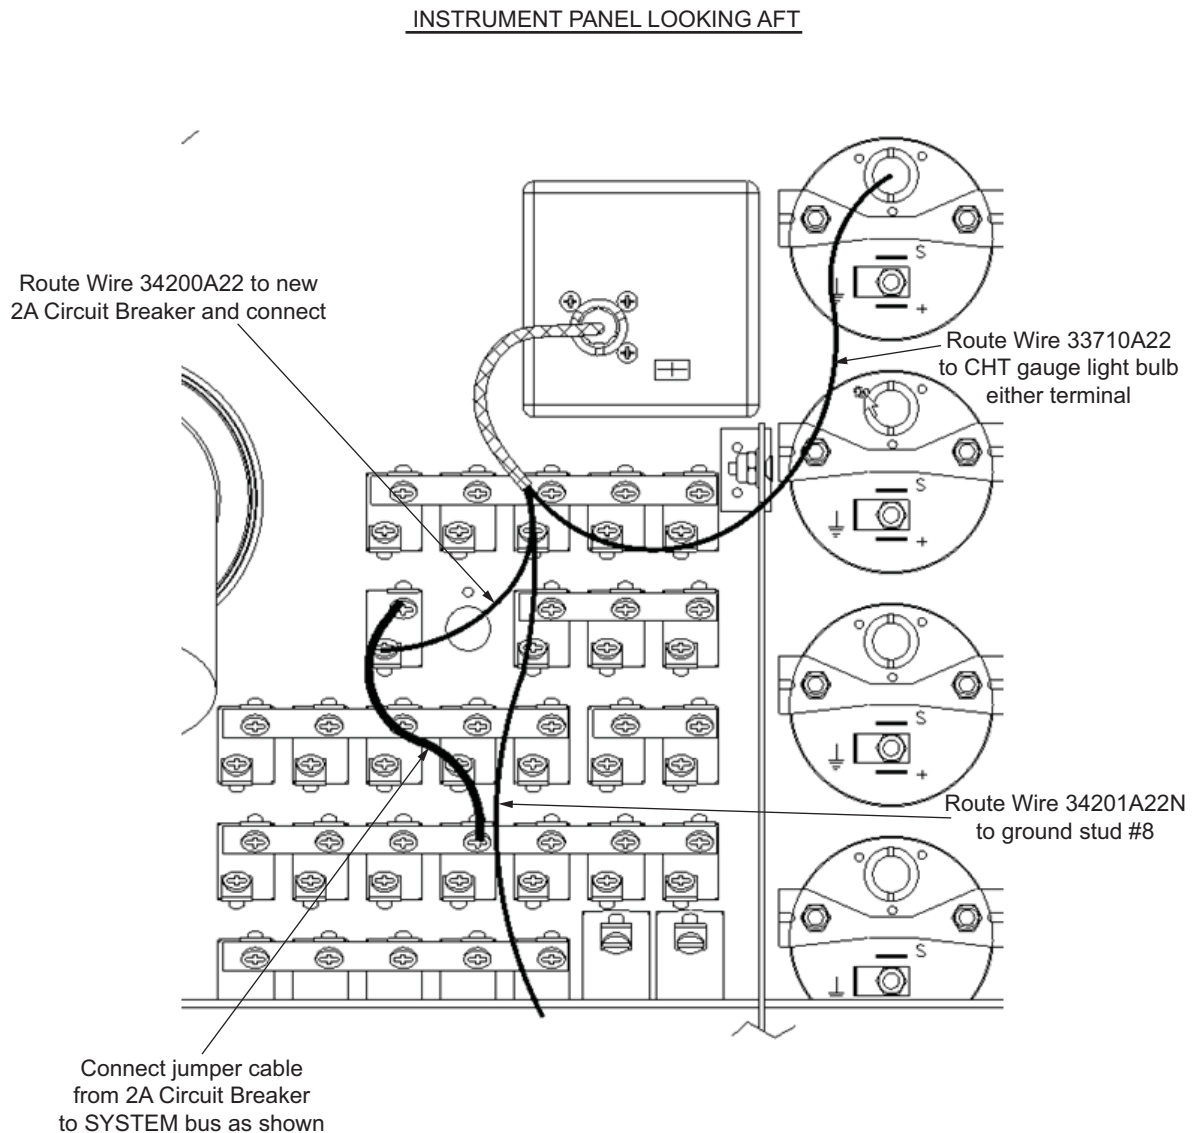

Figure 14
- 10.19 Install the Artificial Horizon harness (P/N 22-3424-01-00) and the supplied jumper cable. Refer to Figure 14 for details.